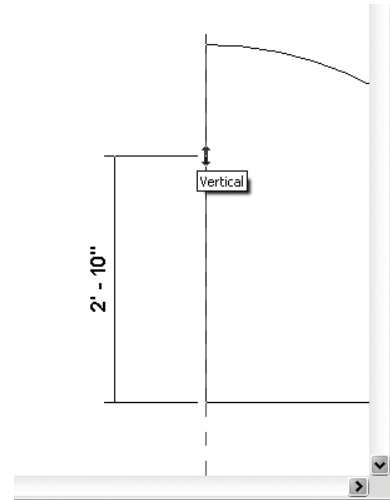

FIGURE 3-1.12 Drawing another Detail Line; 600'-0" vertical line – lower right
31. Move the cursor straight up from your first point so that the line snaps to the vertical and the dashed line appears (Figure 3-1.12).